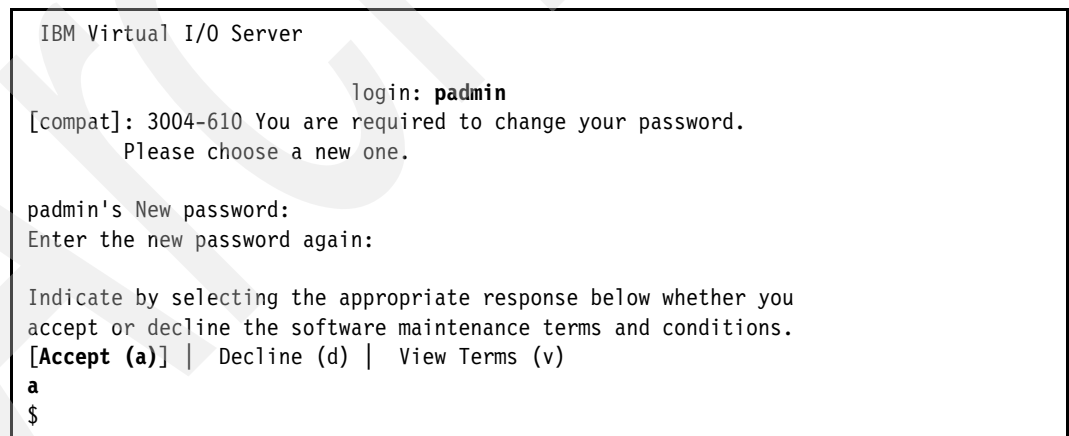

Figure 6-59 VIOS login prompt
19. After the successful installation of VIOS login with the prime administrator user ID `padmin`, enter a new password and enter `a` to accept the software terms and conditions, as shown in Figure 6-59.